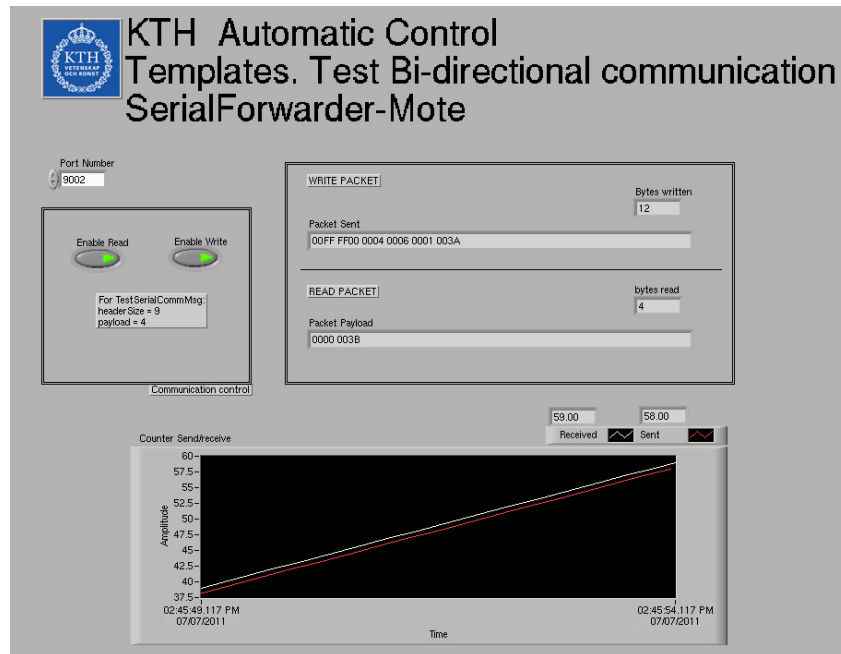
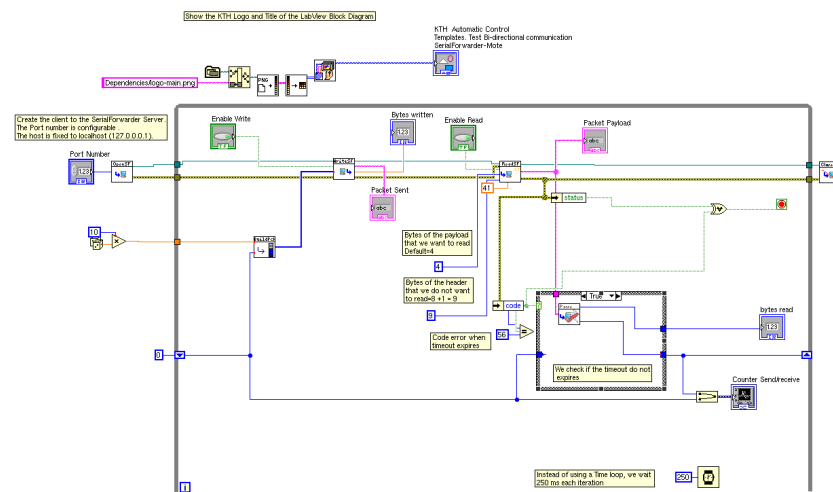

Figure 2.12: Front panel TestMoteComm
Figure 2.13: Block diagram of TestMoteComm
**PC: TestMoteComm.vi** Figure 2.12 shows the front panel of the Vi that reads/writes in the serial port periodically. We can see the raw data of the packet sent to the mote, and the payload data of the packet received from the mote. At the bottom, we have a chart that shows the difference between the received and sent value. As we see in Figure 2.13, in the LabView we do not modify the counter value, we just forward the information.
Figure 2.13 shows the block diagram of the `TestMoteComm` vi. In this example we have added another variation compared to the previous one. In this case the timeout is not set to Infinity, so the `ReadSF` does not block the model. By doing this, we need to take into account that the SubVi will not always give us data, so we need to control that. This is what we do in the If case structure. We compare if we receive an error, meaning that the timeout has expired.